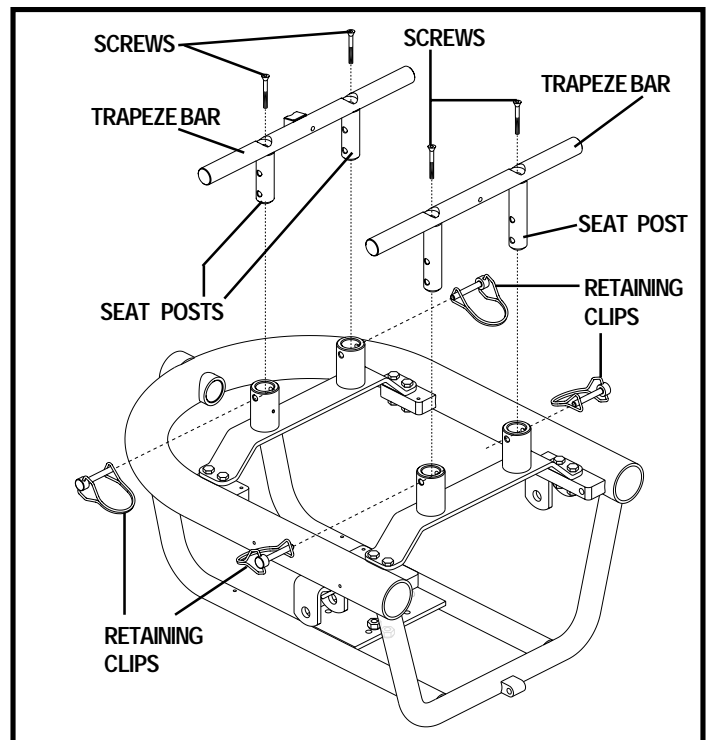

Figure 13. Trapeze Bars Location
7. Loosen the screws that attach the trapeze bars to the seat posts. See figure 13.
8. Remove the retaining clips that secure the seat posts to the power base. See figure 13.